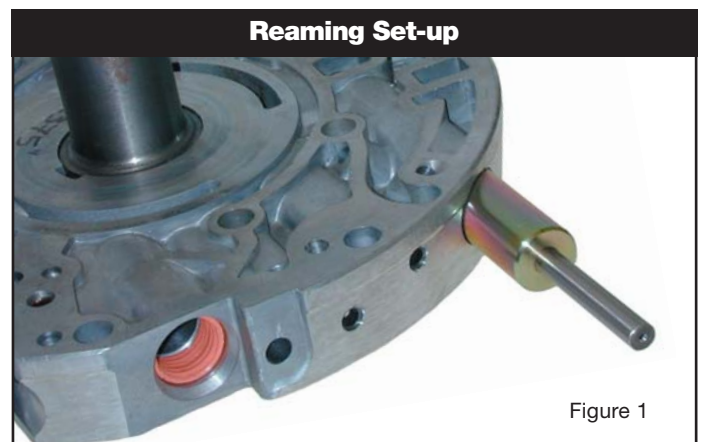

Figure 1
3. Install the reamer and jig 77917-TLC or 77917-TL as shown in Figure 1.